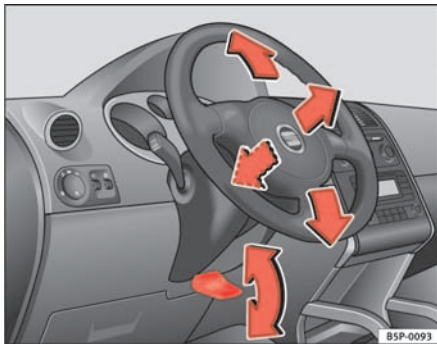

Fig. 127 Adjusting the steering wheel position
- Push the lever under the steering column ⇒ fig. 127 down ⇒ ⚠.